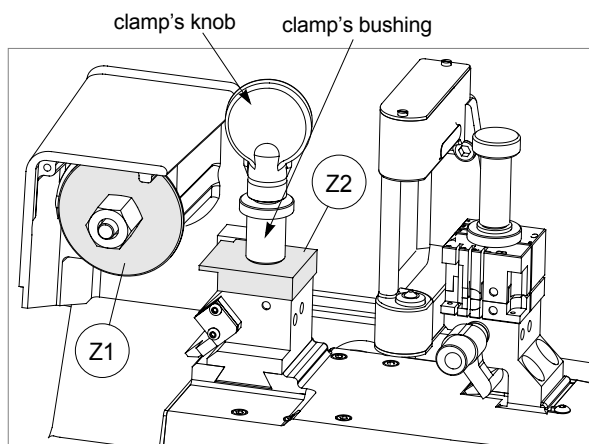

Fig. 34
5) insert the (Z2) template, the clamp's bushing and secure them with the clamp's knob (fig. 34).
6) remove the cutter (ch.4.6, page 16) and insert the (Z1) template into place (fig. 34).
8) manually move the X and Y axis up until the (Z1) and (Z2) templates make contact (see fig. 34 - top view).
**ATTENTION:** check that both the (Z2) and (Z1) templates make perfect contact (fig. 34). If this does not occur the display will show an error message.